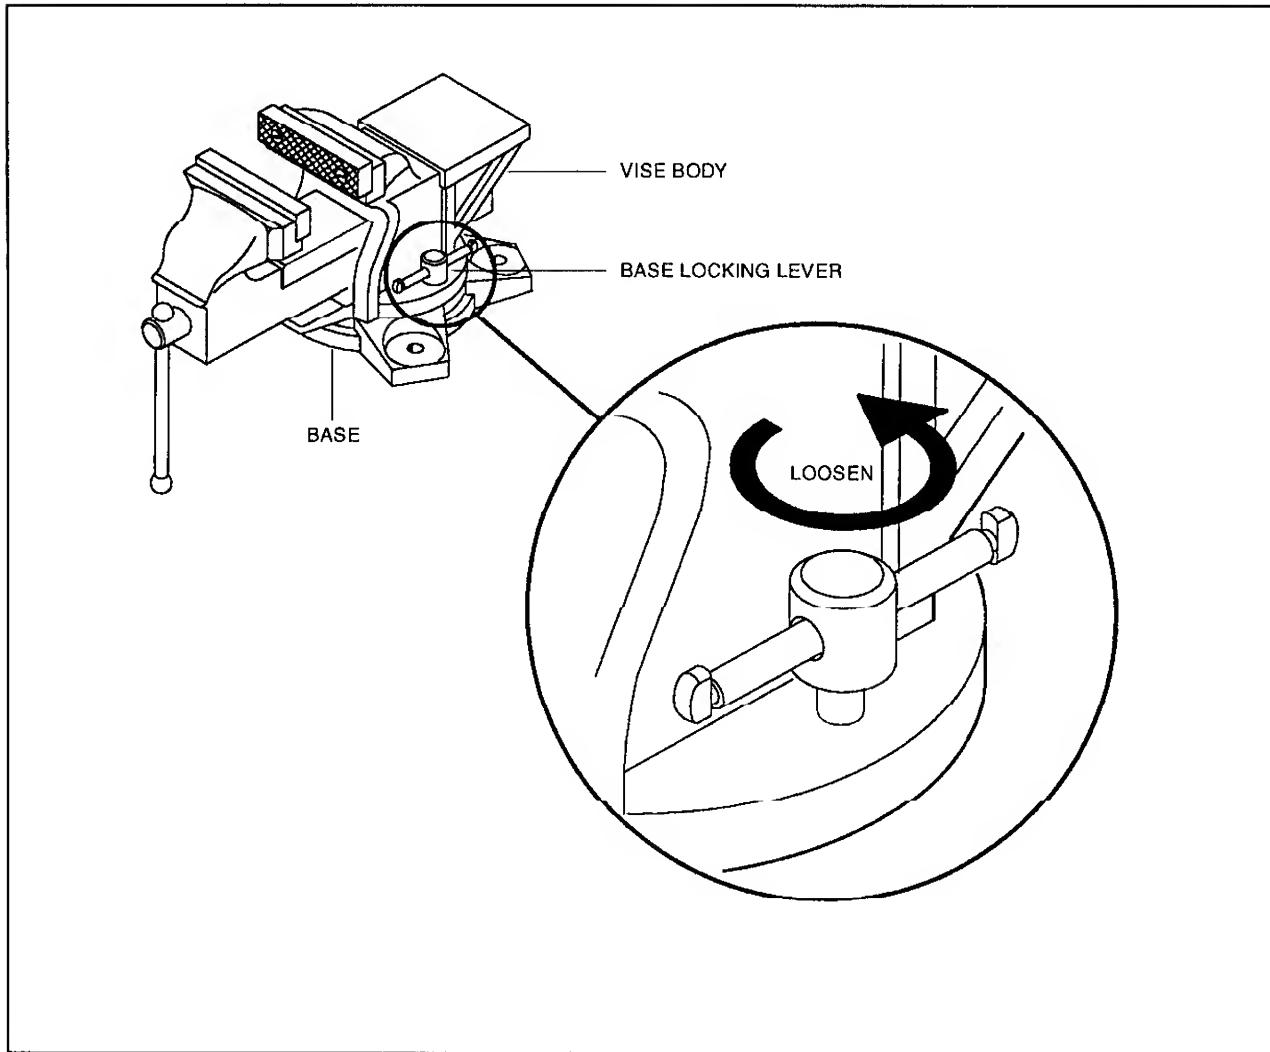

Figure 3. Loosen Base Locking Lever
Step 1. Locate the base locking levers (T-nuts), one to each side of the vise, as shown in Figure 3.
- Step 2. Unlock each base locking lever by turning it counterclockwise as shown in Figure 3.